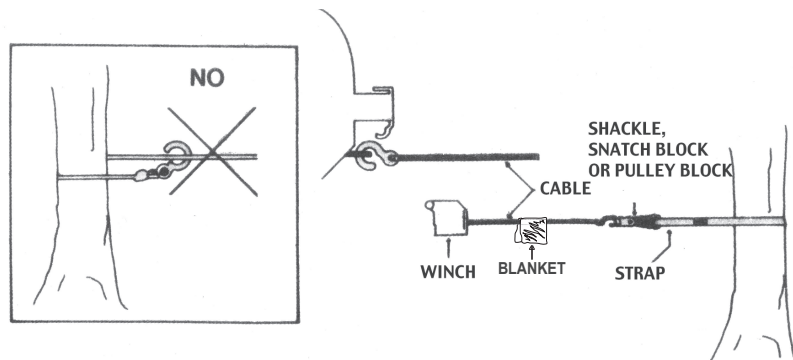

Figure 2
**!** **Never** wrap the cable around a load, then hook the cable to itself! **Always** connect the cable hook to a snatch block or load strap hook whose rated capacity is **greater** than the rated capacity of your winch! (Fig. 2)